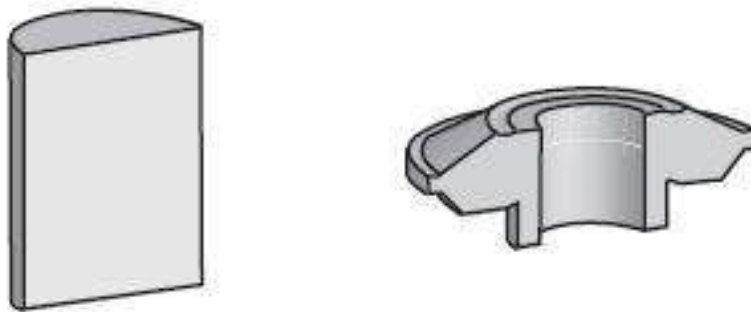

Figure Q3(b) / Rajah Q3(b)
c) **Figure Q3(b)** shows a round impression-die forging made from a cylindrical steel blank, (as illustrated on the left). Describe a sequence of forging steps to make the part on the right and sketch the shape of the dies needed.